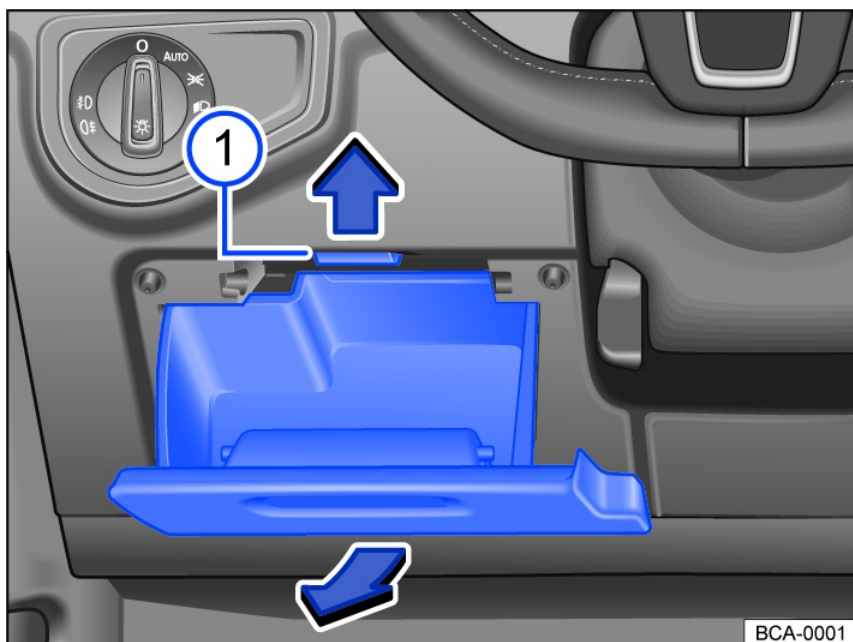

Fig. 175 On the driver side in the instrument panel: fuse box cover.
2. Push as far upwards as possible fig. 175 ① and open the driver side stowage compartment again in the direction of the arrows and pull off.